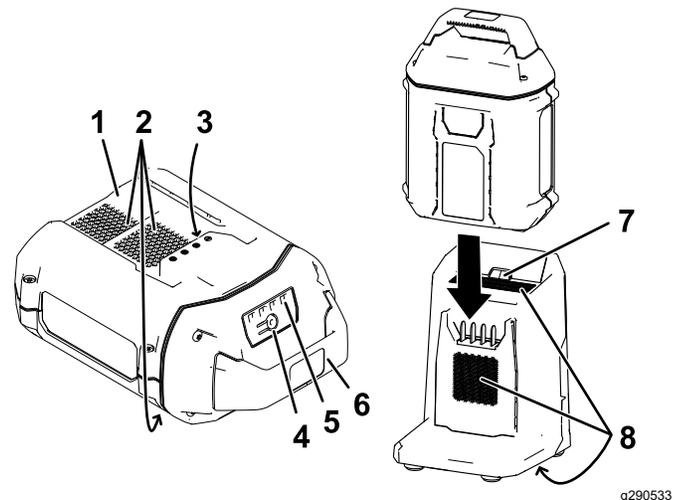

Figure 23
2. Line up the cavity in the battery pack (Figure 23) with the tongue on the charger.
- Slide the battery pack into the charger until it is fully seated (Figure 23).